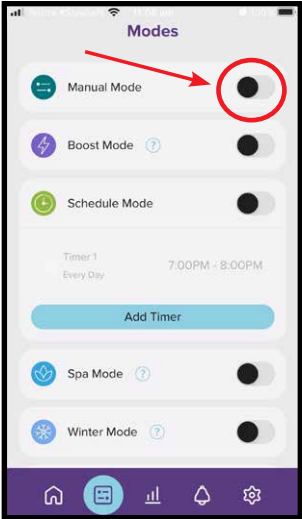

Figure 9.12
- In the “modes” menu, manual mode can be toggled off (as shown), or on by simply sliding the switch (ref Figure 9.12).